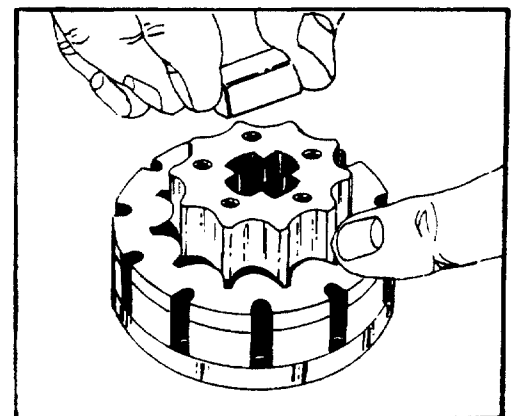

FIGURE 28.
- remove & inspect drive link spacer** 33. Remove drive link spacer (23). See figure 28. Replace it, if it is grooved or worn.
- inspect commutator** 34. The commutator (22) is made up of two round plates pinned and bonded together as a permanent assembly and is not subject to further disassembly. Inspect the ground surfaces of the commutator. The holes and edges should be free of nicks. The ground surfaces should be free of scoring. The edges should be sharp.